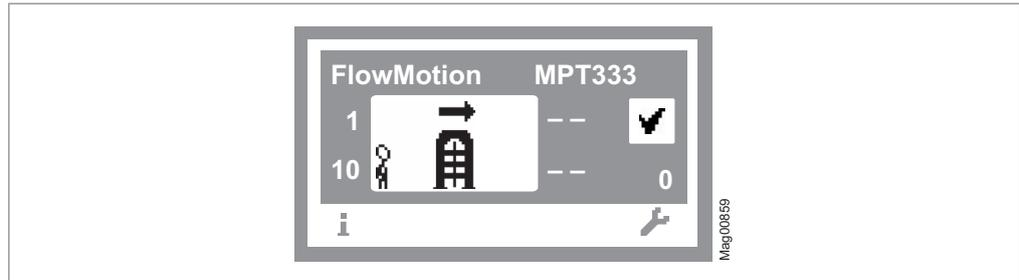

Fig. 10: Example "Operational view"
12. Press the left button «» repeatedly until the operational view is displayed again. ↗ Page 31, Fig. 10.